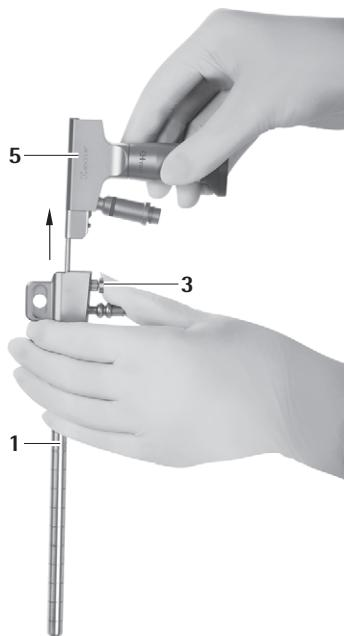

Fig. 8
- Press the release button **3** and remove the endoscope **5** from the MINOP InVent trocar **1**, see Fig. 8.